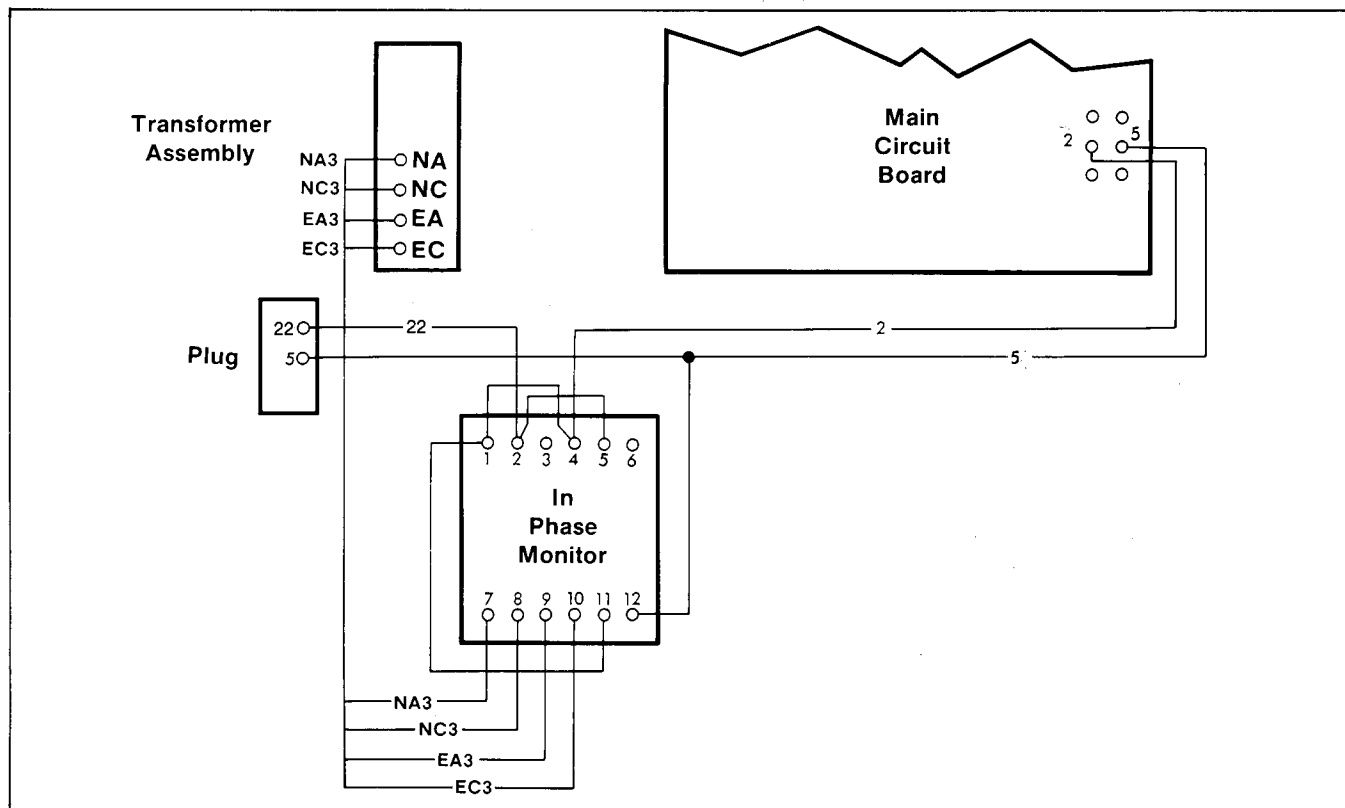

Figure 35. Inphase Monitor Connections
- **Acc. 34-A Inphase Monitor.** Monitors the normal and emergency sources and will not permit transfer in either direction until the phase voltages are within $\pm 15^\circ$ and have a frequency difference within ± 2 cycles. If the source supplying the load fails or drops below 70% the monitor will override itself and permit immediate transfer. See Figure 35 for connections.